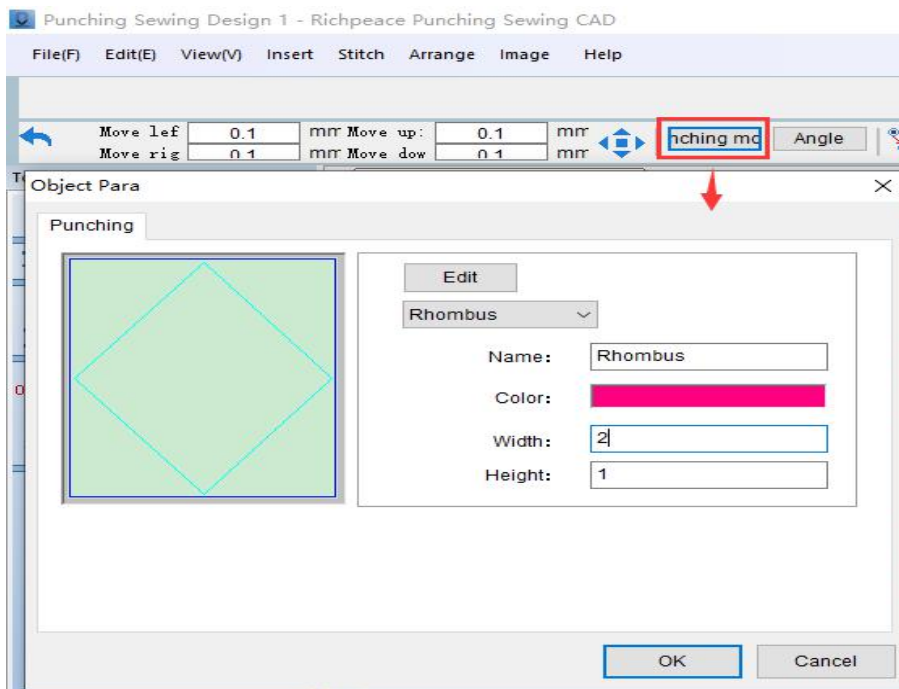
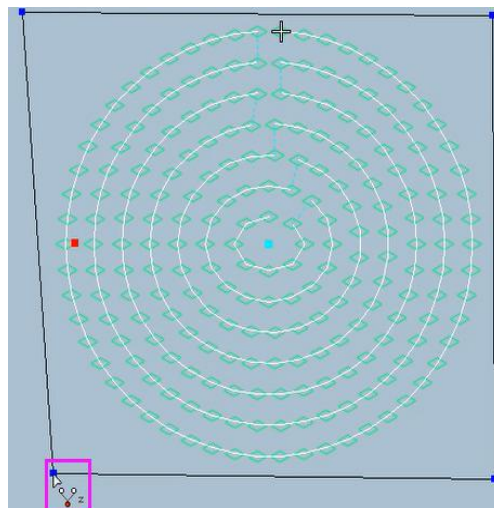

图 2 Picture2
图 3 Picture3
第六步：使用左侧工具栏  工具移动鼠标左键选择图形，选好后鼠标左键点击“向心调整工具”使用向心调整工具点击图形上一个点（如图 1），空白处鼠标右键出现“（图 2）”蓝色框选择的图标时使用工具框选图形，鼠标左键单击，按“Enter”键确定。或者鼠标左键点击“向心调整工具”使用向心调整工具点击图形上一个点（如图 1），空白处按“Shift”键切换成“折线方式”，按两下“Enter”键确定（如图 3）。确定后（如图 4）。按“esc”取消“向心调整”工具使用（如图 5）。
Step 6: Use the tool on the left toolbar to move the left mouse button to select the graph. After selecting, click the left mouse button to click the "centripetal adjustment tool" and use the centripetal adjustment tool to click on a point on the graph (as shown in Figure 1), and the right mouse button in the blank space When the icon selected by the blue box of "(Picture 2)" appears, use the tool to frame the graphics, click the left mouse button, and press the "Enter" key to confirm. Or left-click on the "centripetal adjustment tool", use the centripetal adjustment tool to click on a point on the graph (as shown in Figure 1), press the "Shift" key in the blank space to switch to "polyline mode", and press the "Enter" key twice to confirm ( Figure 3). After confirmation (Figure 4). Press "esc" to cancel the use of the "centripetal adjustment" tool (Figure 5).